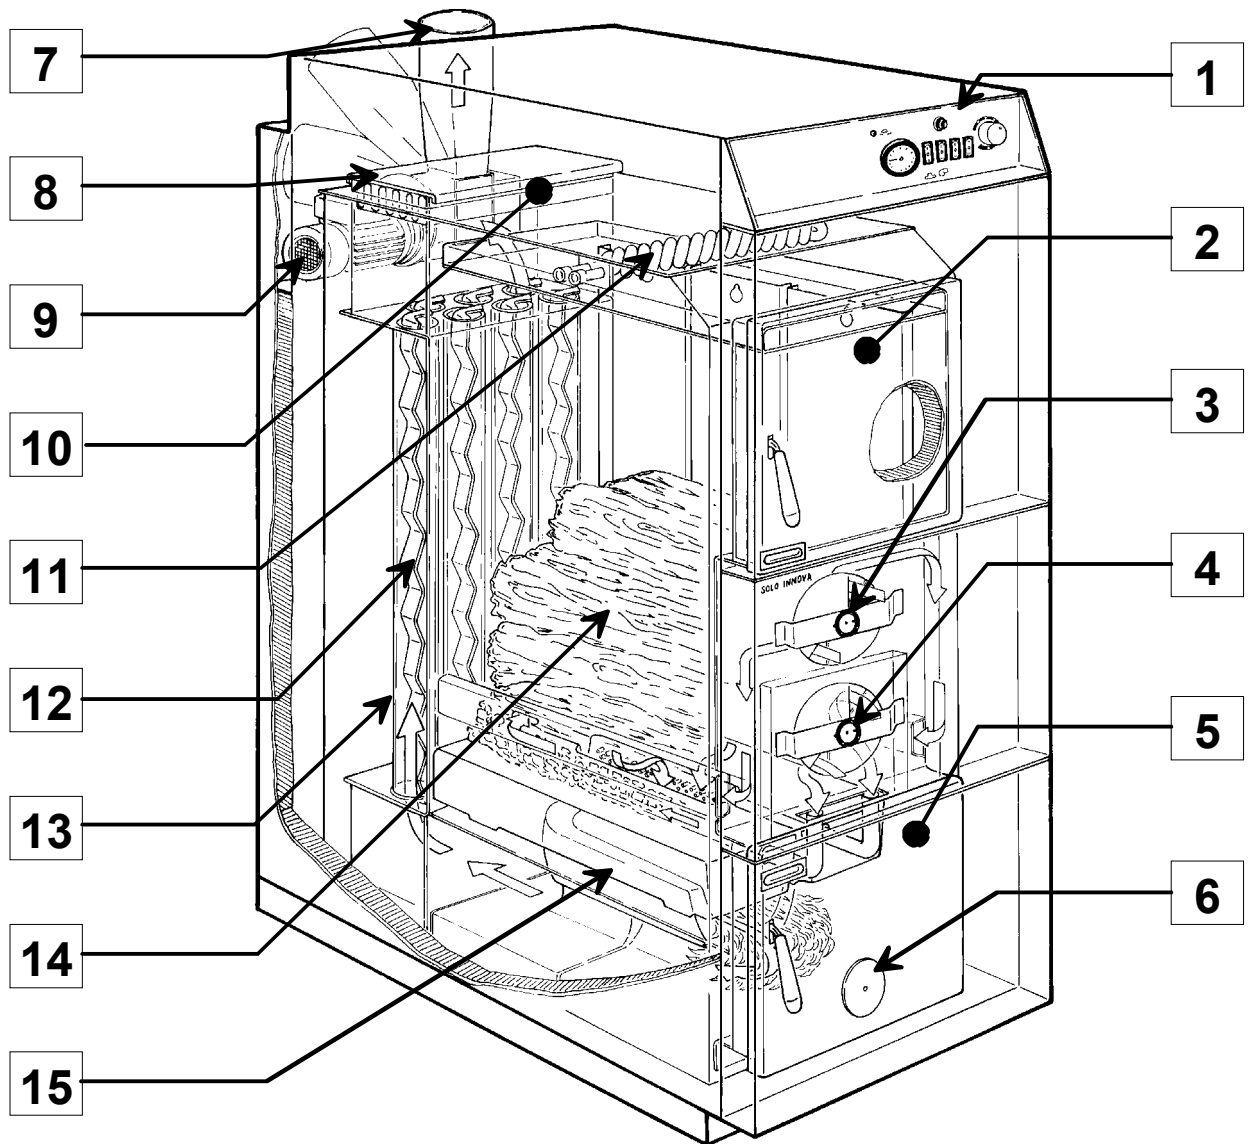

Fig. 1.1
Description of more important components (layout see Fig. 1.1).
1.1.16 Function (See Fig. 1.1)